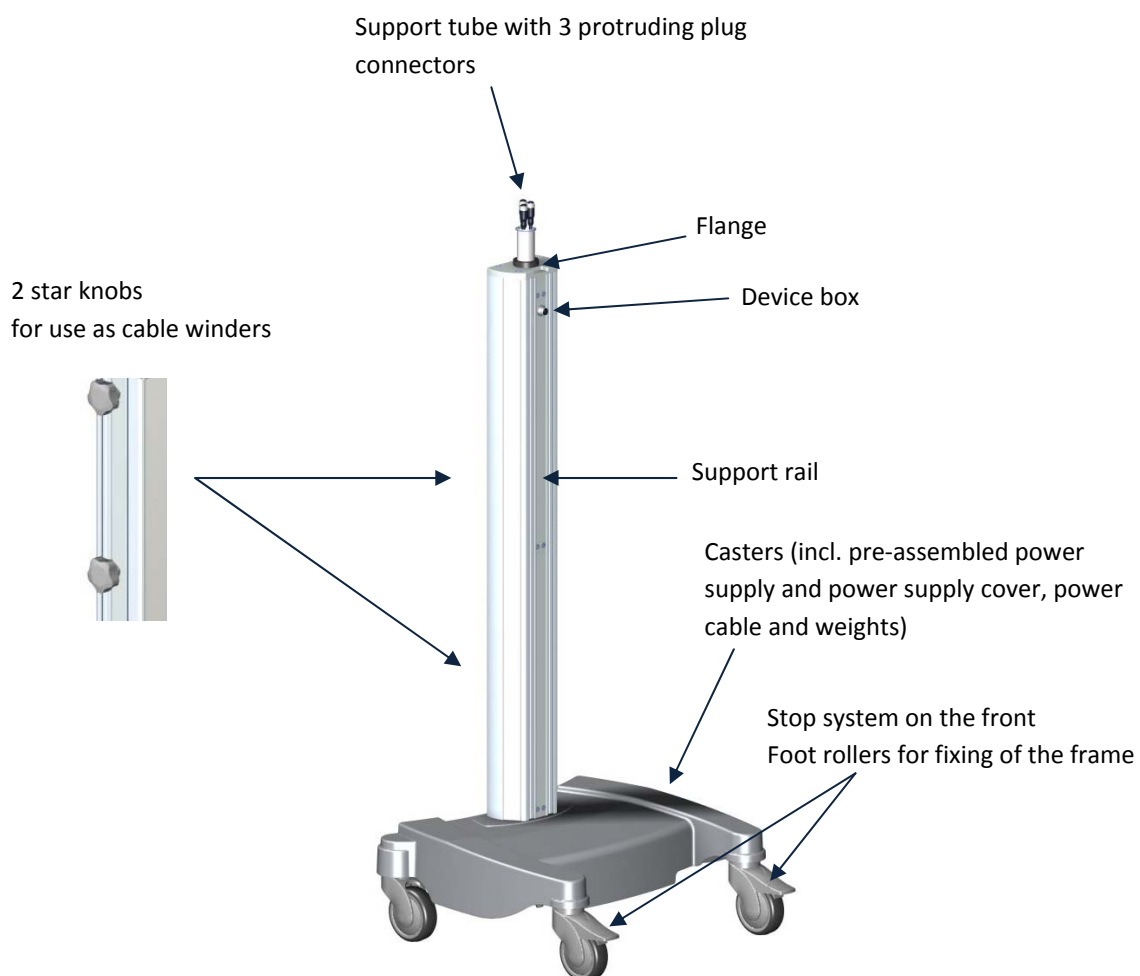

Figure 8: Pre-assembled base of the mobile model
a) The base delivered with the mobile model, which is provided as a pre-assembled unit, consists of the following components and the 3 cable conduits in the support rail (figure 8):